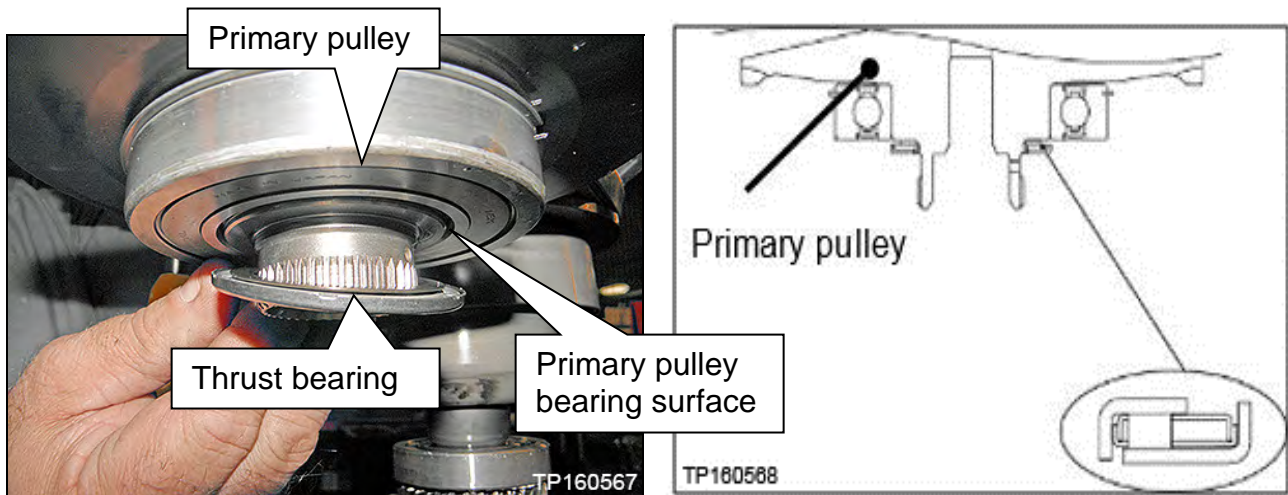

Figure 19E
19. Install the original thrust bearing onto the primary pulley of the new sub-assembly (Figure 19E).
**CAUTION:** The thrust bearing has two different sides. Reference Figure 19E for correct bearing orientation.
- The thrust bearing must sit flush with primary pulley surface (Figure 19E).